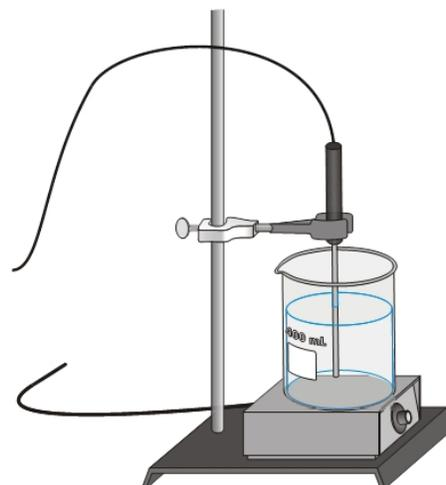

Figure 1
- a. Arrange a hot plate next to the base of a ring stand as shown in Figure 1.
- d. Use a utility clamp to suspend a Temperature Probe on the ring stand as shown in Figure 1. The tip of the probe should be 1–2 cm above the bottom of the beaker. **Caution:** Do not burn yourself or melt a probe wire with the hot plate!